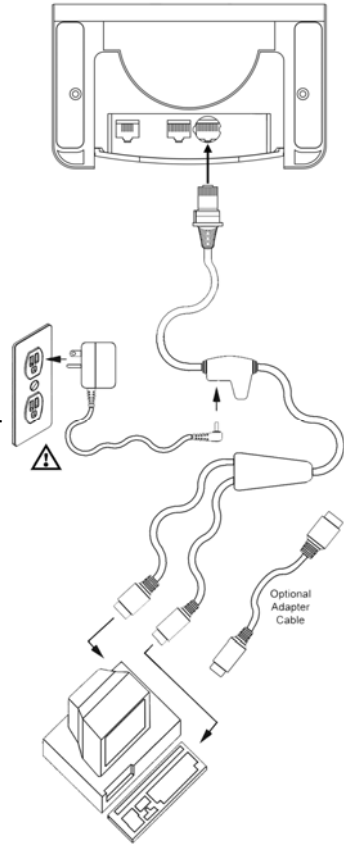

Figure 5.
3. Connect the keyed VLink cable to the 10-pin Multi-Interface jack. It is the only circular keyed jack located on the bottom of the 7820 (see figure 5).